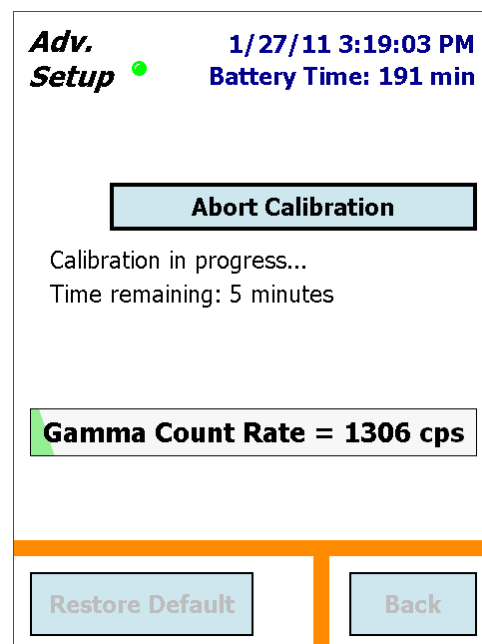

Figure 60. Auto-Calibration in Progress.
- During auto-calibration, the screen displays the time remaining to completion of the calibration, as shown in Fig. 60. This number is the real time for the calibration spectrum acquisition and is based on the peak count rate. Auto-calibration will not succeed until the calibration peak passes the quality test.